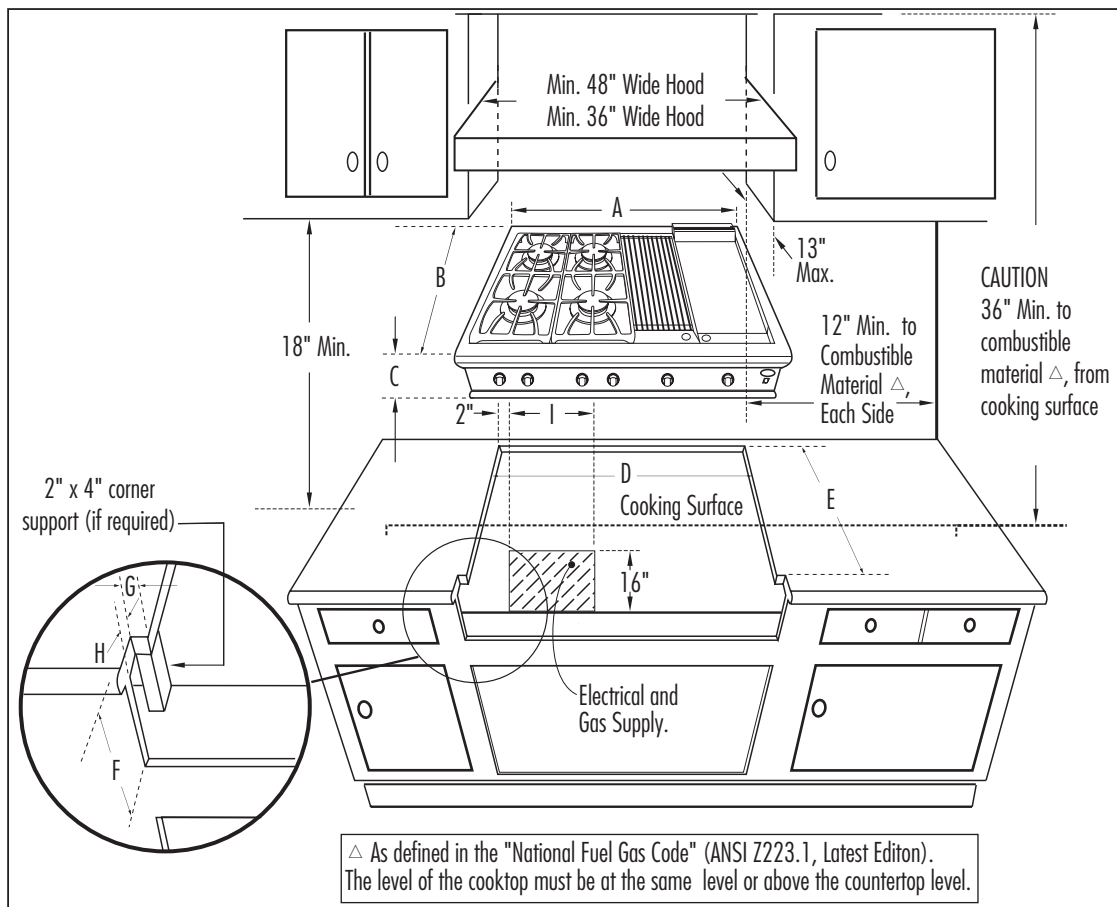

Fig. 1 CS Cooktop Models
- 3) The cooktop is designed to hang from the countertop from its side flanges. The countertop, however, must be strong enough to support this heavy cooktop. It may be necessary to add a supporting cleat along each side or other form of support such as a 2" x 4" corner brace on each side, or a deck to set the cooktop on. See Fig.1.